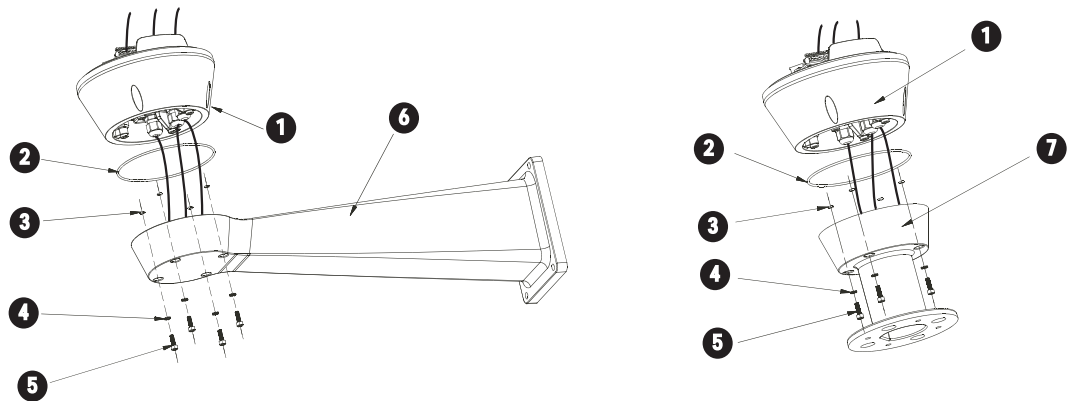

Fig. 4.3 Wiring the Device
- Remove the cable glands from the base and fit the gasket / seal ring (see *Figure 4.3*).
- Position the base on the optional wall or pole mount, guiding the cables so that they are positioned inside the wall or pole mount (see *Figure 4.3*).